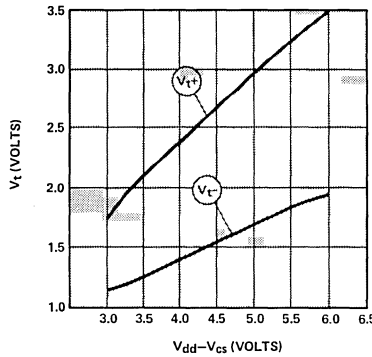

Figure 1. Typical Schmitt Trigger Input Thresholds
2. In general, for any  $V_{DD}$  between the allowable limits (+3V to +6V),  $V_{il} = 0.3V_{DD}$  and  $V_{ih} = 0.7V_{DD}$ ;  $V_{t+}$  and  $V_{t-}$  vary as Fig 1;  $V_{oh} = V_{DD} - 0.5\text{V}$  and  $V_{ol} = V_{SS} + 0.2\text{V}$  @ ( $\pm$ ) 1.6 ma respectively.